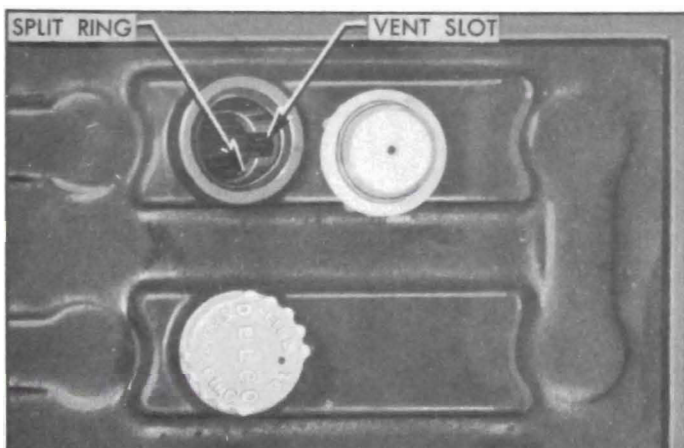

Figure 1-4—Battery Filler Well
12. *Battery.* Add distilled water to bring level to split ring at bottom of filler well. WARNING: Do not overfill. Clean top of battery; if wet with acid, neutralize with soda and wash clean. See figure 1-4.